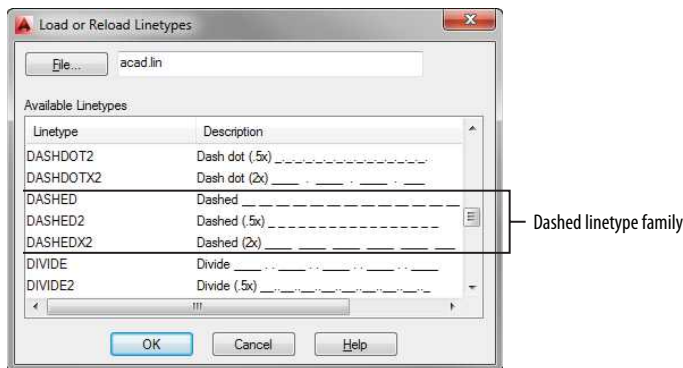

FIGURE 6.14: The list of available linetypes scrolled to the three Dashed linetypes
4. Scroll down the list to the Dashed, Dashed2, and DashedX2 linetypes (see Figure 6.14). Notice how, in this family, the dashed lines are different sizes.
Standard Below the ISO linetypes are eight families of three linetypes each, mixed with seven special linetypes that contain graphic symbols. Each family has one basic linetype and two that are multiples of it: one has dashes twice the size (called, for example, DashedX2), and one has dashes half the size (called Dashed2), as you saw earlier in Figure 6.14. Having an assortment of different sizes of one style of linetype is helpful for distinguishing between building components, such as foundation walls and beams, which, in addition to rooflines, might also need dashed lines.